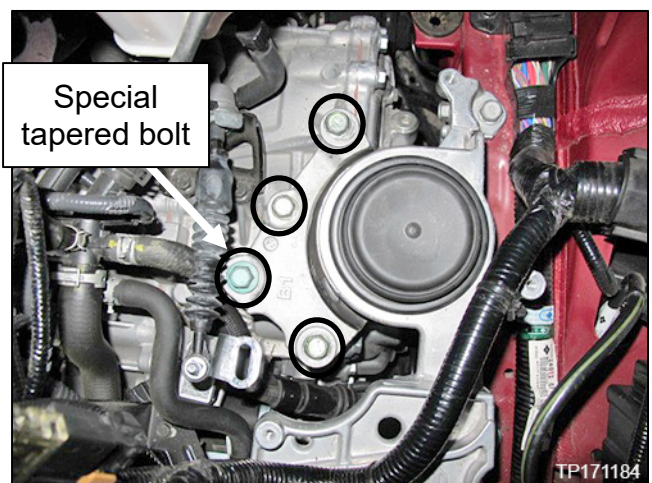

Figure 39
46. Remove the 4 bolts attaching the engine mounting insulator (LH) to the CVT. There is a tapered bolt in location indicated in Figure 39.